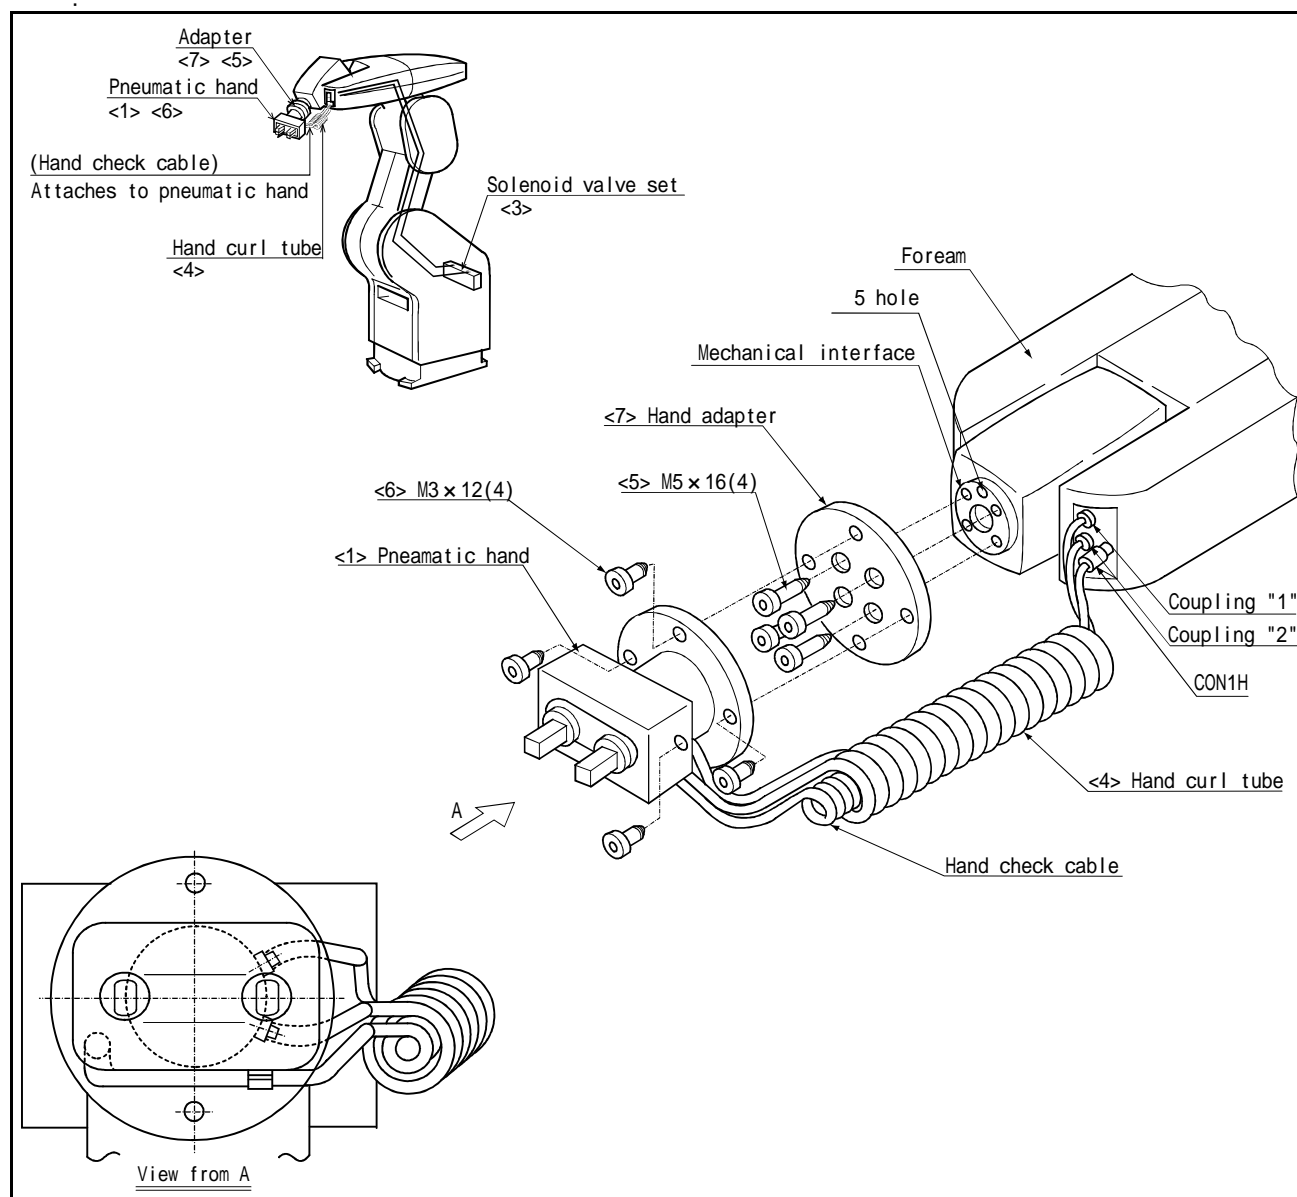

Fig.3-3 : Pneumatic hand set installation procedures
Fig. 3-3 shown the method for installing the pneumatic hand. The installation steps are as follows:
- 2) Use four M3x12 hexagon socket head bolts <6> to install the pneumatic hand to the hand adapter. Use Fig. 3-3 to find the where the ends of the cables should be connected to the adapter.
- 3) As shown in Fig. 3-3, connect the hand curl tubes to coupling "1" and coupling "2", which protrudes from the cover of the forearm. The opposite end of the tube connected to coupling "1" should be attached to the hand's OPEN coupling, and the opposite end of the tube connected to coupling "2" should be attached to the hand's CLOSED coupling.
- 4) As shown in Fig. 3-3, connect the hand check cable, which is attached to the main unit of the hand, to the connector CON1H, which protrudes from the cover of the forearm. This completes the installation of the hand.
CAUTION While operating the hand, depending on the J5 axis and J6 axis, the hand curl-tube and the hand check cable can get entangled with the hand adapter and forearm. In this case, temporarily remove the hand, and reposition it to its correctly installed position, as shown in Fig. 3-3.